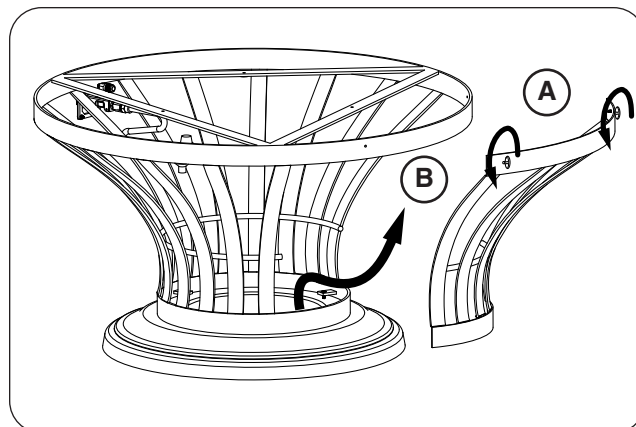

Fig. 34-2 Remove door
3. Remove the storage door by first turning the two thumb screws counter-clockwise, then carefully pulling the door up and outward (see Fig. 34-2). Store in a safe location.